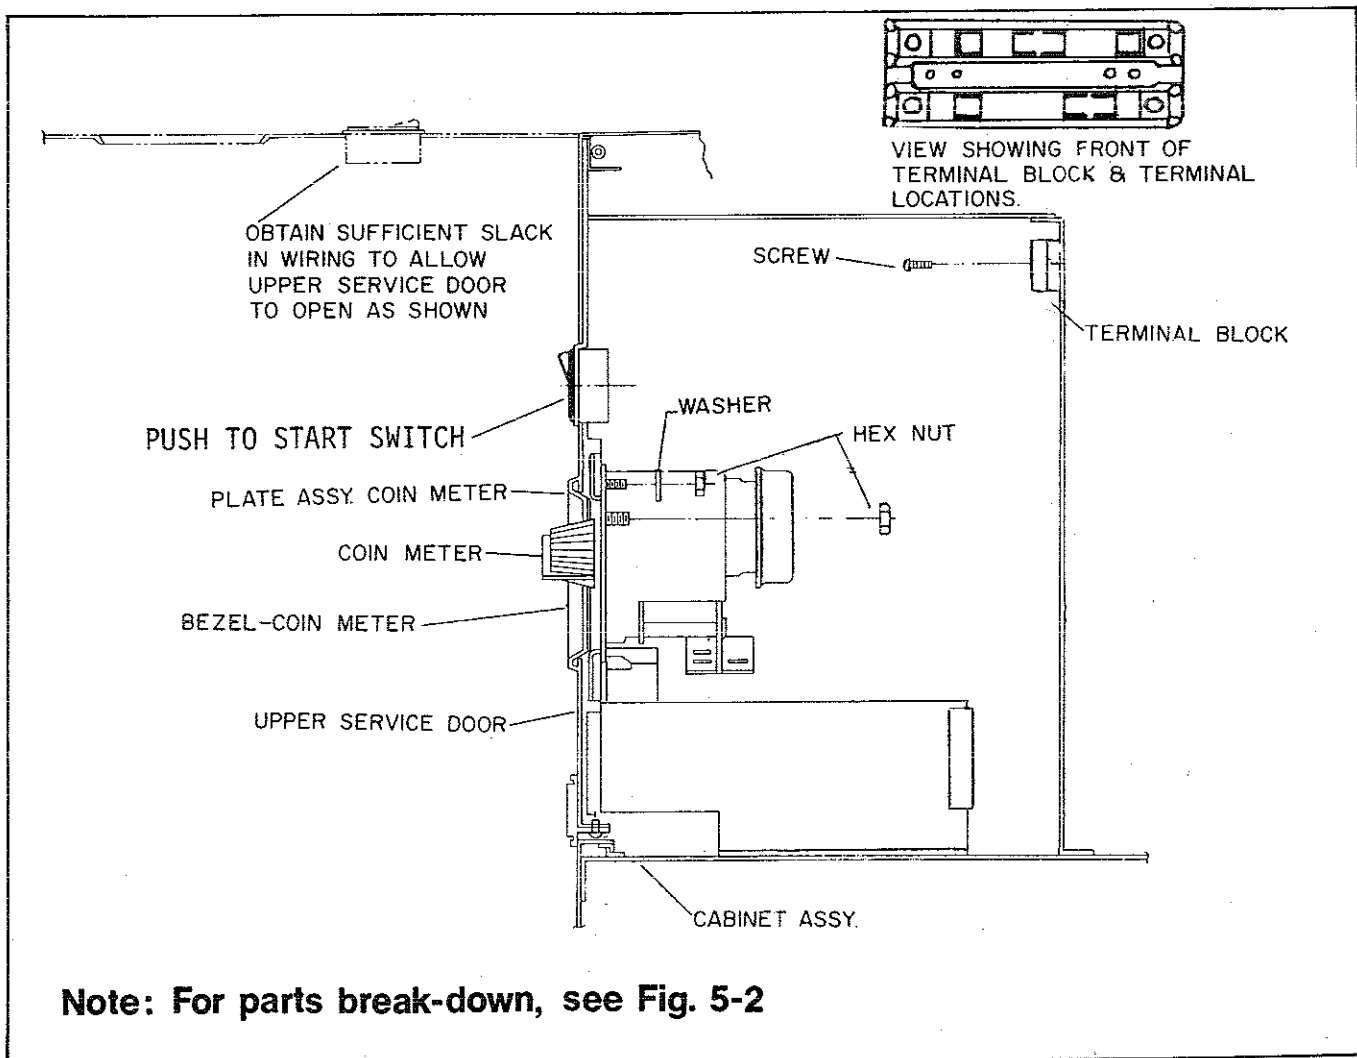

Figure 3-1. Upper Service Door
1. Insert key and unlock. Pull door out from bottom and lift to horizontal position. Swing door support wire until it engages with front lip of door and holds it in the raised position. (Refer to figure 3-1).
2. Remove the four hex nuts holding the meter in place and lift meter off the mounting studs. (Refer to Fig. 3-1).